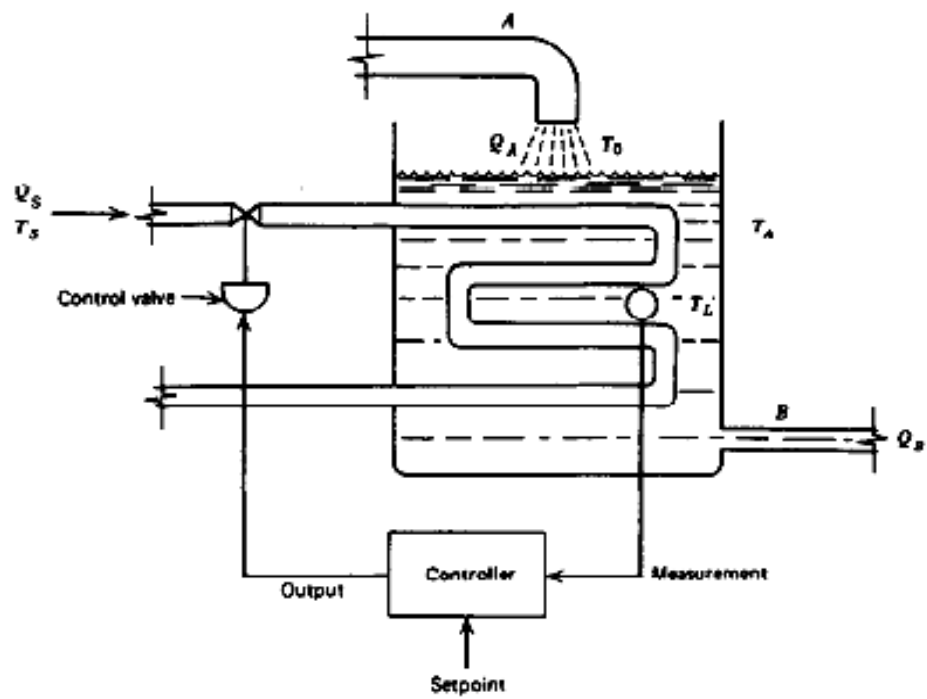

Figure-1
- Q.5 (a)** Define the variables in the system of Figure-1 that constitutes the process load. **07**